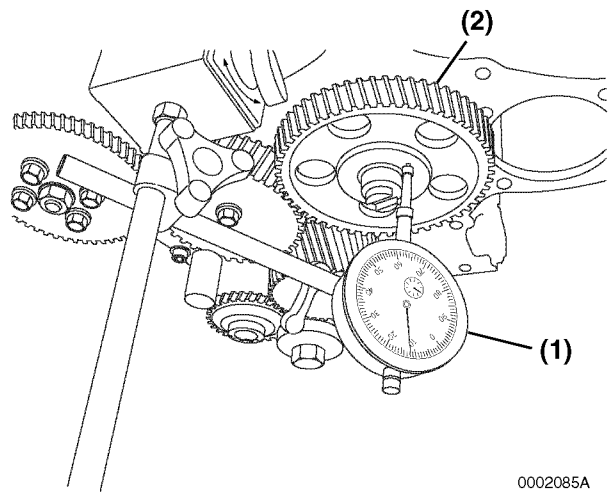

Figure 6-92
- Method A:** Install a dial indicator (Figure 6-92, (1)) on the cylinder block. Move the camshaft (Figure 6-92, (2)) back and forth to measure the end play. Record the measurement. See *Camshaft* on page 6-11 for the service limit.